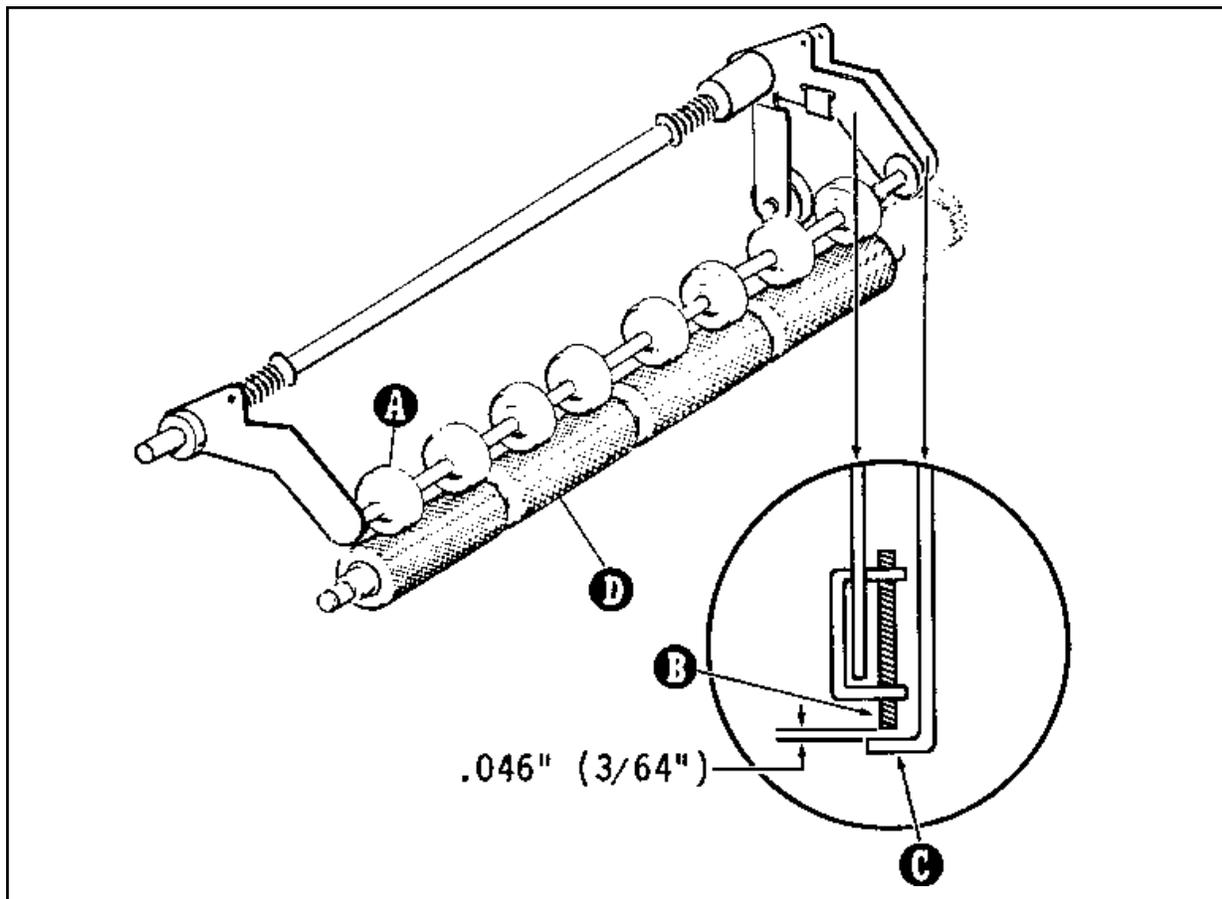

Figure 42 - Upper Forwarding Roller - 9910XCS/9910XC2
1. Check that the forwarding roller (A) revolves freely with a minimum of end-play (see Figure 42).
2. Turn the handwheel until the forwarding roller (A) is lifted.
3. Check that the tips of the adjustment screws (B) (on both the operator and non-operator sides) are flush with the underside of the lower ears on the levers (C). If not, adjust them.
4. Turn the handwheel until the forwarding roller (A) is fully down in contact with the metal forwarding roller (D), and there is a maximum clearance between the bottom of the adjustment screws (B) and the lower ears of the forwarding roller carrier levers (C).
5. Adjust the screw (B) on the non-operator side carrier lever to obtain a $.046''$ ($3/64''$) clearance from the lower ear (C) of the operating lever.